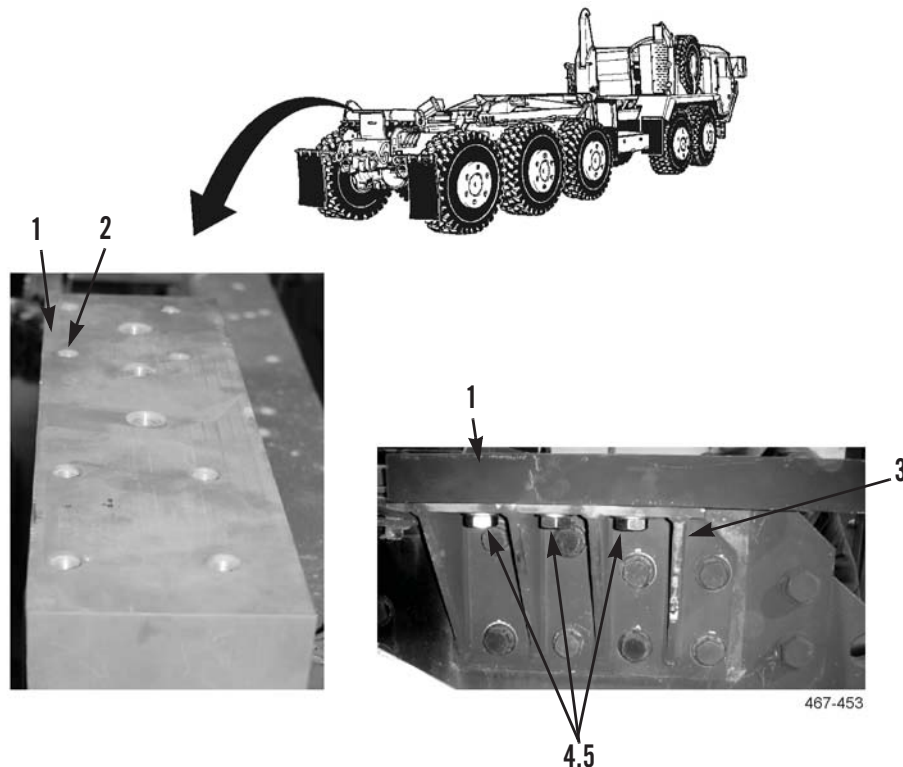

Figure 39. PLS Slider Mounting Block Installation.
3. Install three washers (Figure 39, Item 4) and bolts (Figure 39, Item 5) in slider support bracket (Figure 39, Item 3).